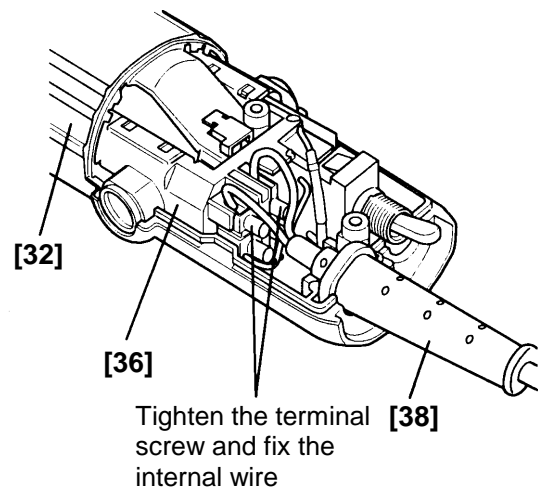

Fig. 8
② On completion of assembly, fix the Stator [11] into the Housing [32] with the two D4 x 65 Hex. Hd. Tapping Screws [10].
(4) Reassembly of the cord (Fig. 8)
① Insert the internal wire of the Cord [38] into the terminal of the Wiring Block [36].
② Tighten the terminal screw of the Wiring Block [36] and fix the internal wire of the Cord [38].